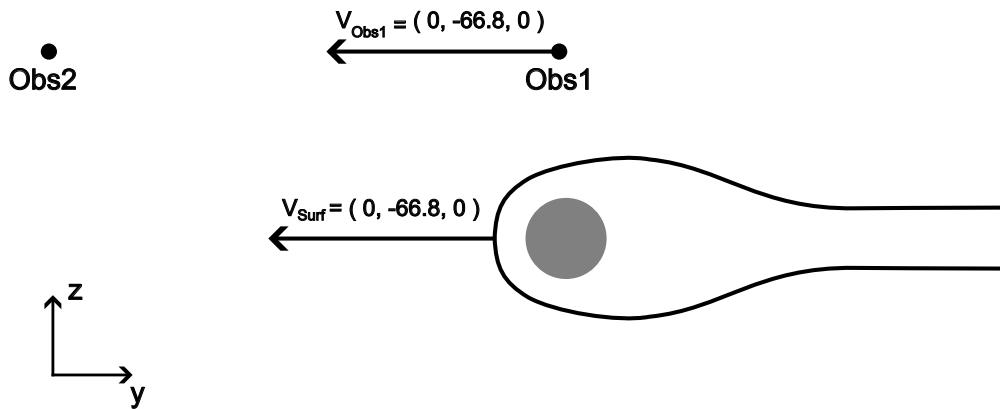

Fig. 1.3: FWH surface and observer motions - FWH (quiescent medium) frame of reference
When the FWH equations are derived, we make an important assumption - that of a ‘quiescent medium’ (i.e. still air, with a free-stream velocity of zero). Clearly, with a freestream velocity of  $(0, 66.8, 0)$ , the flow in our CFD simulation does not satisfy this condition. In order to use the FWH solver, we therefore have to perform a co-ordinate transformation, as in Fig. 1.3. In the *run\_fwh* utility, this co-ordinate transformation is performed automatically, whereas in the *fwh python module* we set up the surface and observer motions through the FWH quiescent medium manually.
The centre of the cylinder in the CFD mesh is at (0.25,0,0), and we want *Obs1* to always be (0,0,20) metres away from the cylinder centre during the FWH simulation. Since the cylinder 'travels with' the FWH surface (see Fig. 1.3), we can therefore say that the motion of the cylinder centre in the FWH co-ordinate frame is  $\mathbf{x}(t) = ((0.25, 0, 0) + (0, 0, 20)) + \mathbf{V}_{surf} t$ . We therefore set the motion of *Obs1* to be  $\mathbf{x}(t) = (0.25, 0, 20) + \mathbf{V}_{surf} t$ . We set *Obs2* to be stationary in the FWH reference frame, and to be coincident with *Obs1* at  $t=2.5$ . We save the outputs to a json file called *FWH\_data.json*.
*Obs1* moves through the FWH medium at a constant displacement from the cylinder centre (see Fig. 1.3). We see from our post-processing that the noise experienced by *Obs1* is dominated by a constant 10 Hz component, which is the shedding frequency of the cylinder. Various harmonics of the 10 Hz signal are present in the power spectral density plot for *Obs1*.